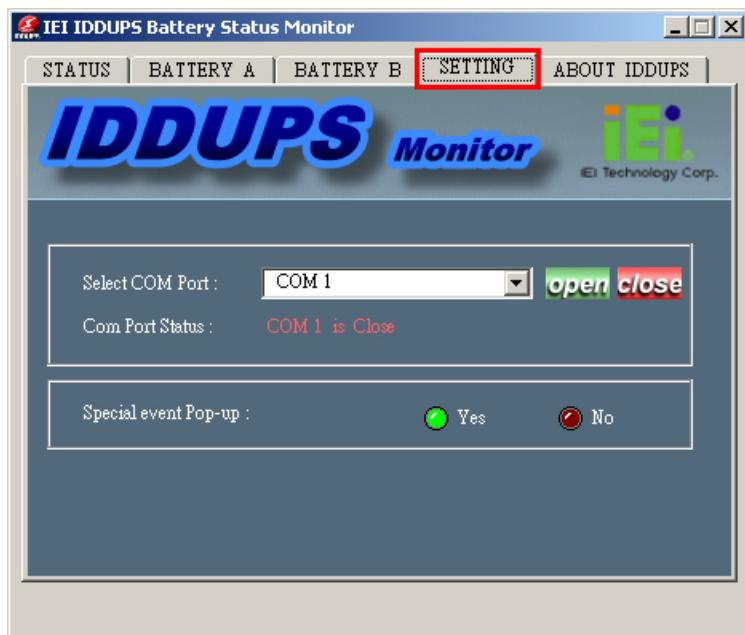

Figure 5-2: IDDUPS Battery Application - Setting
Step 4: Click the SETTING tab when the IDDUUPS Battery application is loaded (**Figure 5-2**).